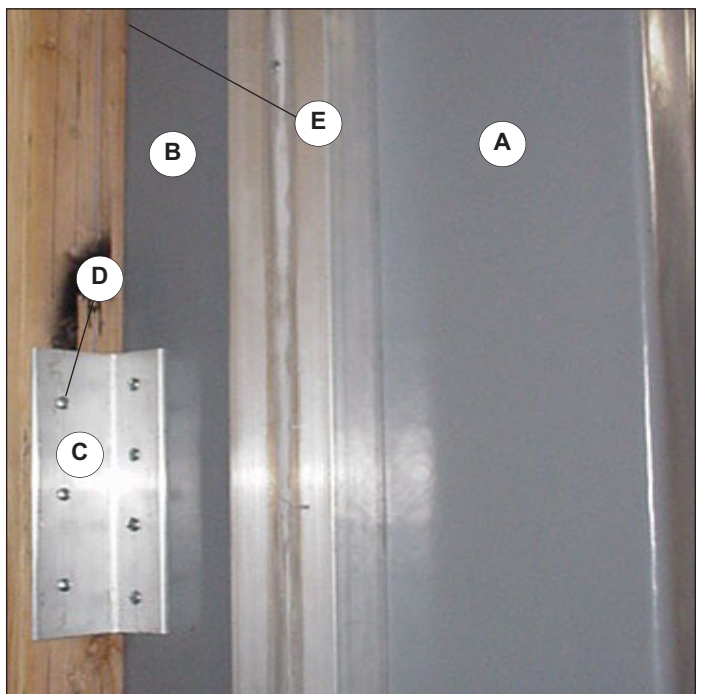

Figure 8.6
1. Place the side panel (A) to the inside of the non-drive support post (B) with the angles (C) facing away from the opening. This post will have holes for fastening the side panel. Using the 3" [76] phillips head screws provided, fasten the side panel to the support post. Use Caution not to overtighten the screws, Figure 8.6.
2. Square the side panel to the wall or poly lumber and using the 1" [25] phillips head screws (D) provided, fasten to the wall using all the holes in the angle. The side panel may have two, three or four angle brackets.
3. Caulk the perimeter of the side panel (E) to avoid temperature loss and frost buildup.